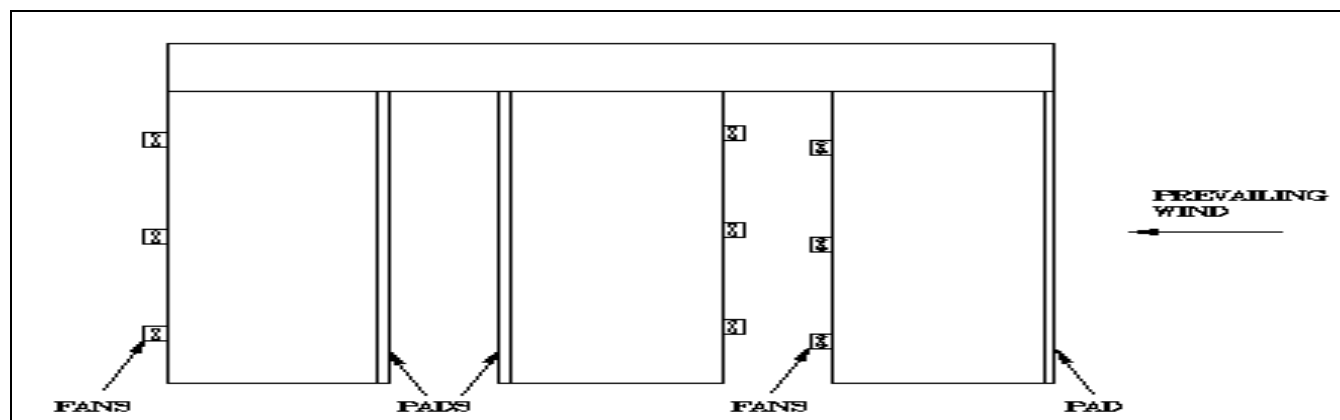

Figure 7. Typical greenhouse range layout.
- When fans from two adjacent houses close to each other exhaust into a common area between the houses, they should be offset from each other to avoid the air from one blowing directly against the other (Figure 7). Roof mounted fans should be used if fans do not have at least 1.5 fan diameter clearance between their discharge opening and the nearest obstruction.